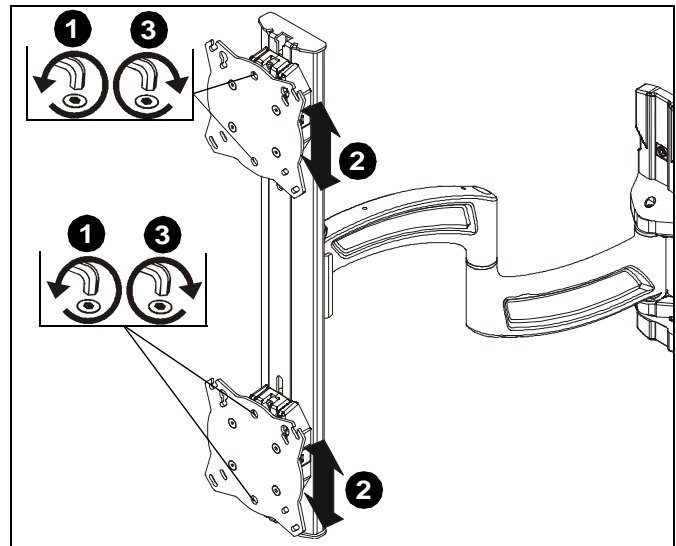

Figure 12
- Loosen height adjustment screws for each faceplate to adjust height. (See Figure 12)
- Adjust display to desired height. (See Figure 12)
- Tighten height adjustment screws to lock display's position. (See Figure 12)